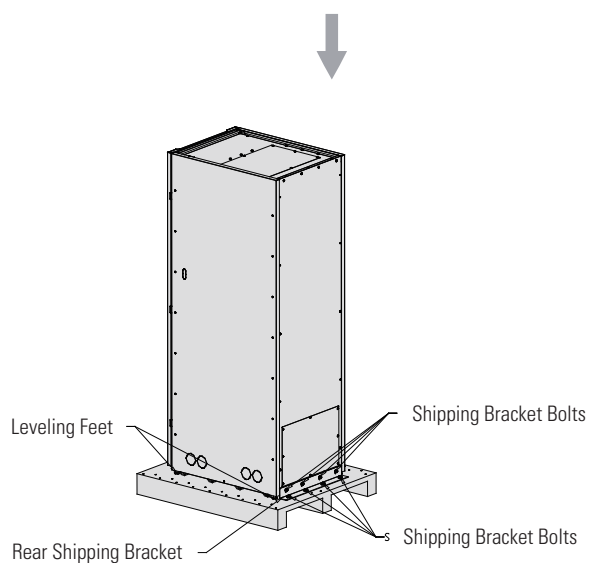

Figure 4-4. Rolling the Cabinet Down the Ramp
6. Slowly roll the cabinet toward the front of the pallet. Continue rolling the cabinet down the ramp until the cabinet is clear of the ramp (see Figure 4-4).